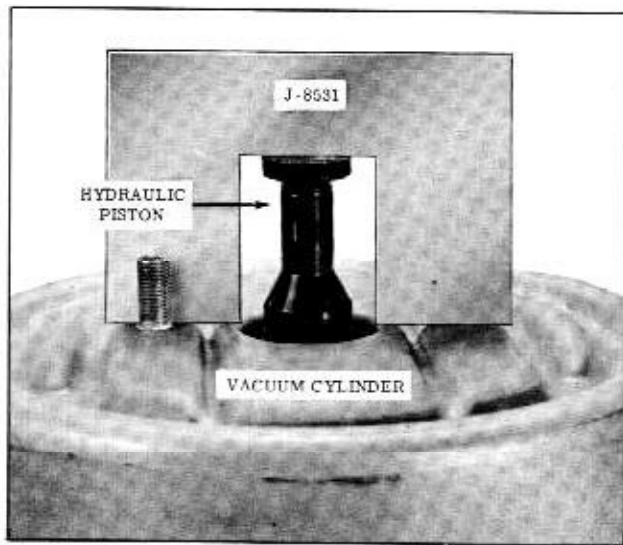

Fig. 7-27 Checking Hydraulic Piston Height
2. Place the gauge over the hydraulic piston with the legs of the gauge toward the mounting surface next to the studs on either side of the piston. (Fig. 7-27)